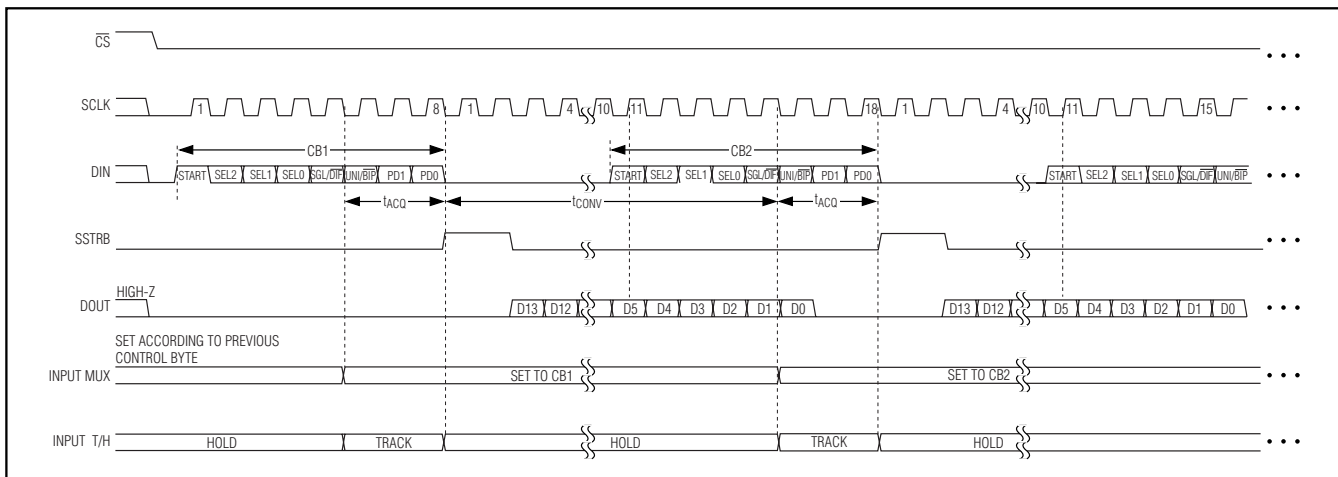

Figure 10. External Clock Mode—18 Clocks/Conversion Timing
Use the circuit of Figure 7 to quickly evaluate the MAX1148/MAX1149. The MAX1148/MAX1149 require a control byte to be written to DIN using SCLK before each conversion. Connecting DIN to V_{DD} and clocking SCLK feeds in a control byte of \$FF HEX (see Table 1). Trigger single-ended unipolar conversions on CH7 in external clock mode without powering down between conversions. In external clock mode, the SSTRB output pulses high for two clock periods before the MSB of the 14-bit conversion result is shifted out of DOUT. Varying the analog input to CH7 alters the sequence of bits from DOUT. A total of 18 clock cycles are required per conversion (Figure 10). All transitions of the SSTRB and DOUT outputs occur on the falling edge of SCLK.
- 2) The first high bit clocked into DIN after bit 5 of a conversion in progress is clocked onto DOUT (Figures 10 and 11).
The fastest the MAX1146-MAX1149 can run with $\overline{CS}$ held low between conversions is 18 clocks per conversion. Figures 10 and 11 show the serial-interface timing necessary to perform a conversion every 18 SCLK cycles.